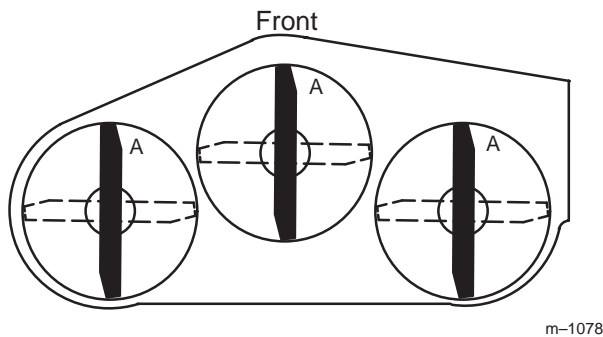
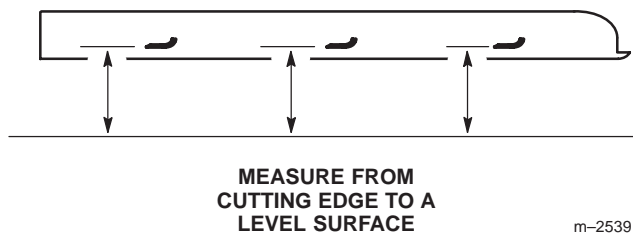

Figure 45
Figure 46
1. Rotate the blades until the ends face forward and backward (Fig. 45). Measure from a level surface to the cutting edge, position A, of the blades (Fig. 46). Note this dimension.